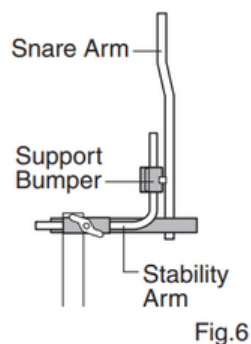

Fig.6
1. Adjust the position of the Stability Arm so that the Support Bumper is just in front of the Snare Arms as shown. (Fig.6)